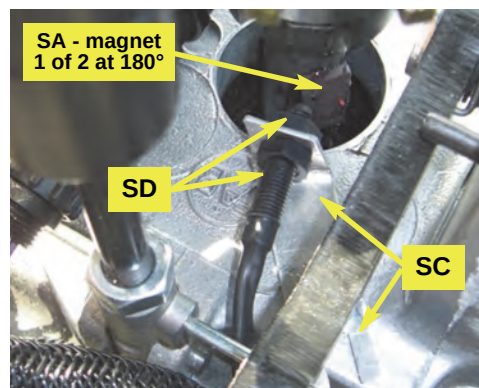

Figure 3: Installed switch bracket, magnets and switch
- b. Slide the slotted end of switch bracket **SC** under the locknut and align **SC**'s switch hole with the vertical centerline of the steering shaft (Figure 3). Tighten the locknut.
Using the two-part epoxy **SB**, install magnets **SA**, 180° apart, on the steering shaft. Install the magnets vertically, centered on the switch hole in the switch bracket (Figure 3).
- c. Install switch **SD** in bracket **SC** and use the switch nuts to set the sensor face to 1/8" to 1/4" from the magnets (Figure 3). Leave **SD**'s cable out from under the bottom of the boot surround (you will connect the ECU's SWS cable **EF** to **SD**'s cable in the next section).